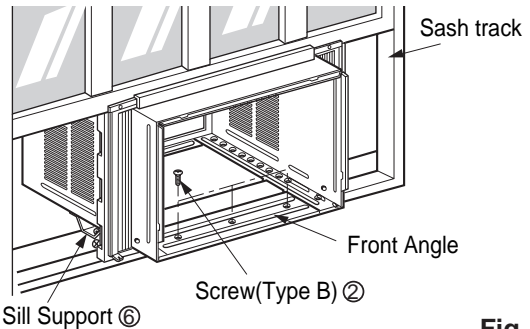

Fig. 5
6. The cabinet should be installed with a very slight tilt (about 1/2") downward toward the outside (See Fig. 5). Adjust the bolt and the nut of Sill Support ⑥ for balancing the cabinet.
7. Attach the cabinet to the window stool by driving the screws ② [Type B: Length 16mm (5/8 inch) and below.] through the front angle into window stool. (Fig. 5)
8. Pull each Frame Curtain ⑤ to each window sash track, and repeat step 2. (Fig. 5)